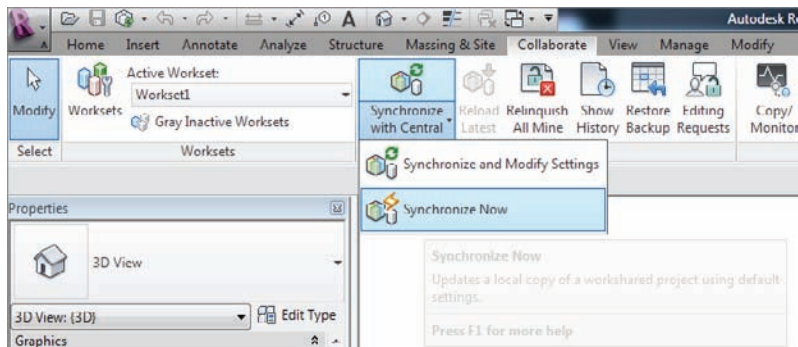

FIGURE 22.7 Clicking the Synchronize Now button
7. On the Collaborate tab, click Synchronize With Central > Synchronize Now, as shown in Figure 22.7. Doing so saves any changes made.